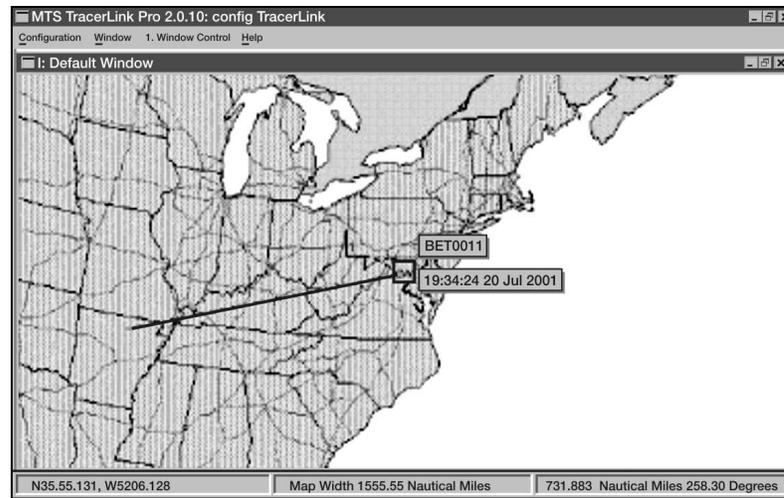

Figure 3-38. Map of Measure Distance Function
- (4) Change Center. Right click the mouse over the map to pop up the menu, select Change Center. Click on the map and the map will move with the point clicked becoming the new center of the map.
- (5) Pan a Map (Move). Right click the mouse over the map to pop up the menu, select Move. The cursor becomes a hand. Click on the map and hold down the left mouse button, then drag the map to the desired position. When you release the mouse, the map will redraw in the new position.
- (6) Measure distance on a map. Right click on the map and then select Measure. Click and drag the cursor from point A to point B on the map. Before releasing the button, look at the scale display at the bottom of the map window. It displays the distance in kilometers, nautical miles, or statute miles. Once you release the mouse, the distance measurement will disappear (see Figure 3-38).
- (7) Reset Map to Initial View. Right click on the map and select Reset.
- (8) Units Changing Units of Measure. Right click on the map and select Unit. Select whether you want the map in Kilometers, Nautical Miles or Statute Miles.